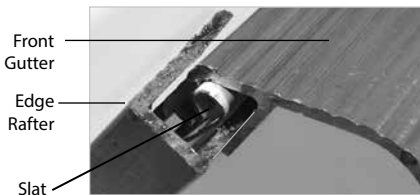

FIG. 6
**NOTE: Only the outside edge of the Front Gutter and the curled edge of the slat is inserted into the Edge Rafter (FIG. 6).**